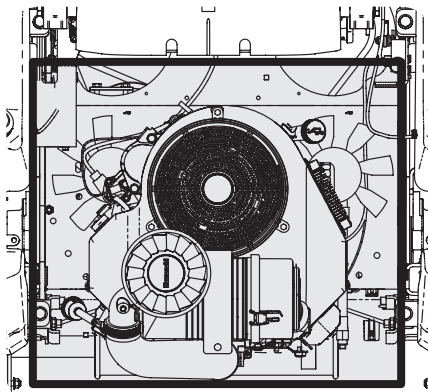

Figure 31
- Clean around the exhaust manifold, fuses, all wiring and harnesses, muffler pipe, muffler shield, engine intake screens and cooling fins, etc. See Figure 31.